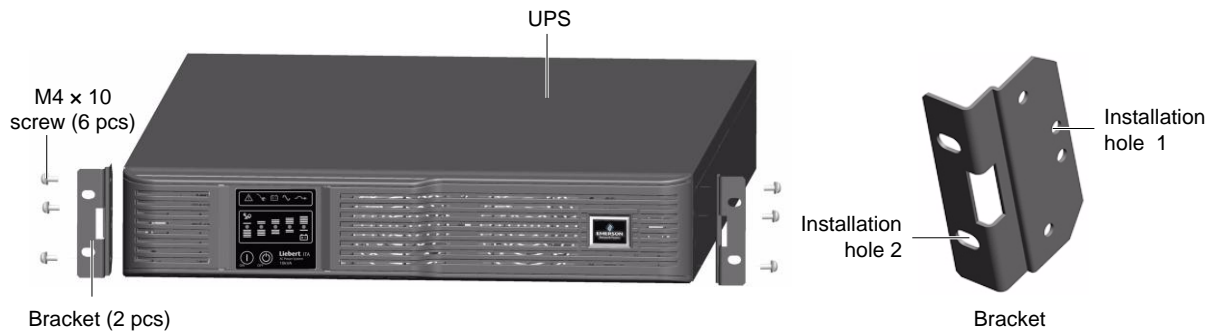

Figure 2-7 Installing brackets
2. Take out the two brackets and six M4 × 10 screws from the accessories of the UPS, and fix the two brackets onto the battery module using the M4 × 10 screws through installation hole 1, as shown in Figure 2-7.